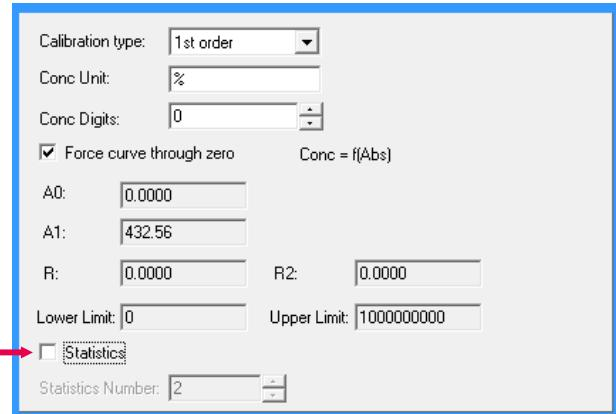

Fig. 4-74 (calibration curve data)
After sample measurement, the statistical calculation result of sample data is indicated when Statistics is specified (see (1) in Fig. 4-74). The result will be indicated in the "Avg Conc" column in the data processing window as shown in Fig. 4-73.